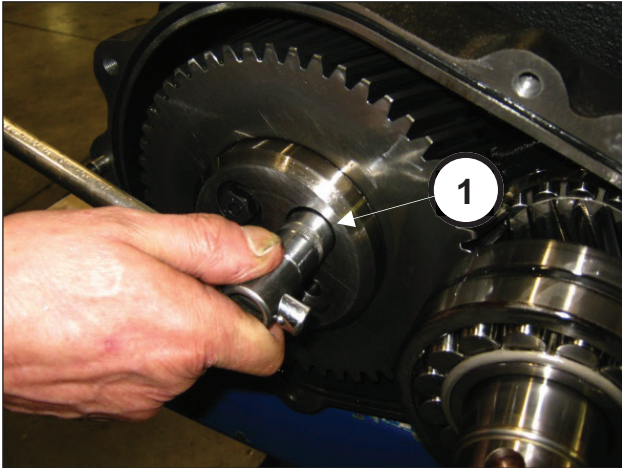
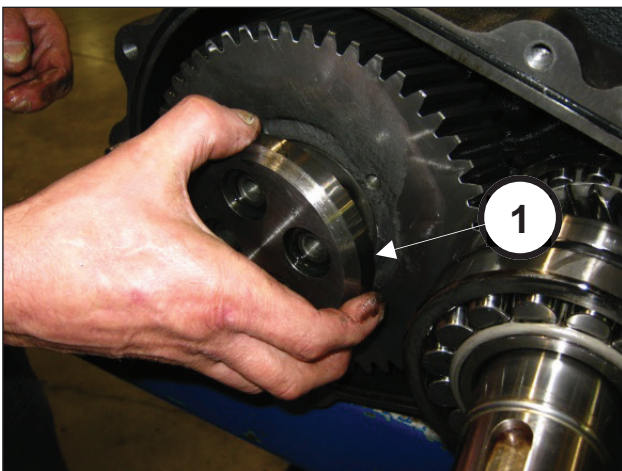

Fig. 9
Fig. 10
On completing this process, remove the reduction gear cover. Unscrew the screws holding in the ring gear (pos. ①, Fig. 9) and remove it (pos. ①, Fig. 10).